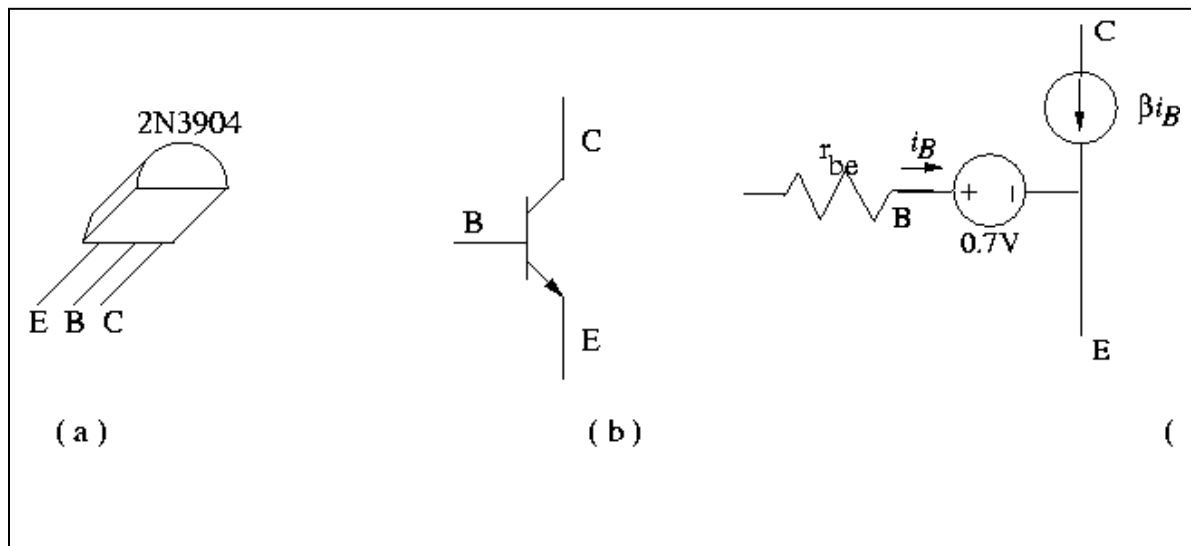

Figure 1
The 2N3904 transistor is a solid-state, three-pin device. The pins are named collector (C), base (B), and emitter (E). The transistor can be modeled as a current-controlled current source (CCCS), as shown in Figure 1. Obtain a 2N3904 transistor and identify the collector, base and emitter for your device.
2. Use the dependent source model for the transistor in Figure 1 and analytically solve for the Thevenin equivalent for the fan controller circuit. How does this compare to your results from PSPICE?